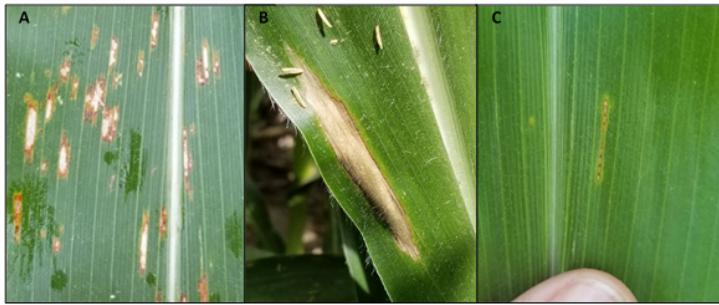

Figure 1. Examples of A- gray leaf spot, B-northern corn leaf blight, and C-northern corn leaf spot lesions on a corn leaf. Photo Credits: Darcy Telenko
**foliar diseases** in corn that we monitor in Indiana such as, gray leaf spot, northern corn leaf blight, northern corn leaf spot, and tar spot (figure 1 and 2). This week we have found a low incidence of tar spot, gray leaf spot, northern corn leaf spot, Anthracnose, and common rust in the lower canopy.